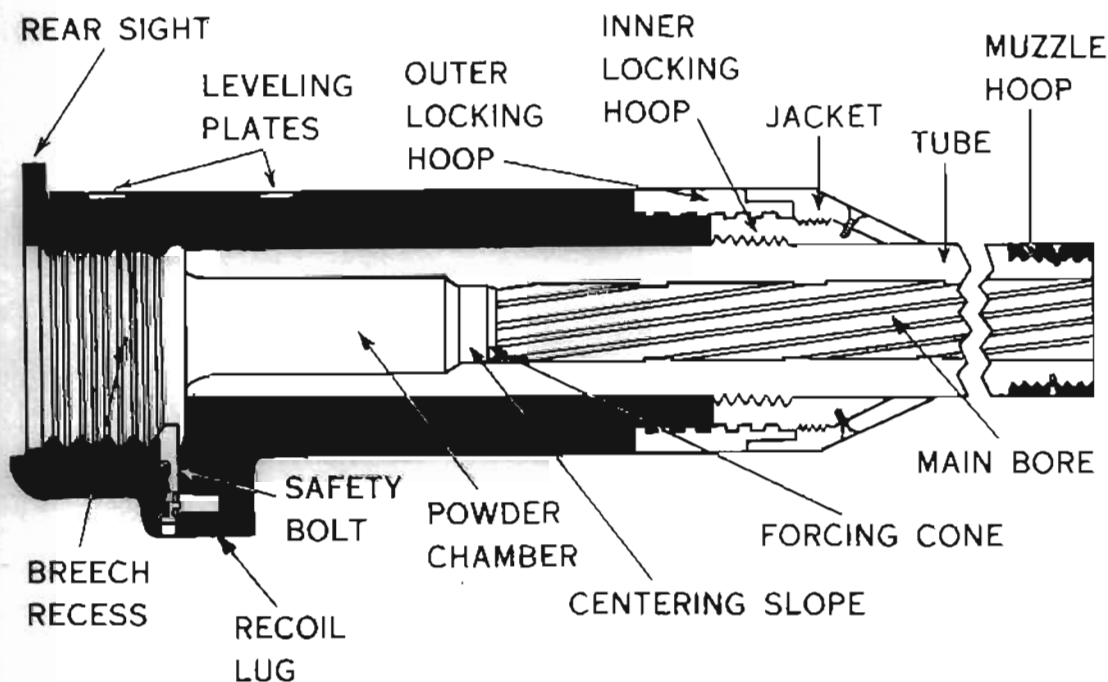

Figure 1
1. Barrel--built-up type (fig. 1).
- (1) Pinned and riveted to rails.
- (2) Pinned to jacket support through rails.
4. Parts of bore (fig. 1).